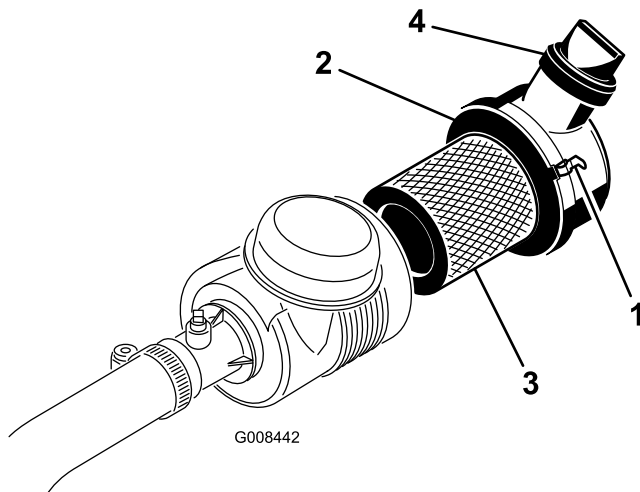

Figure 37
1. Release the latches securing the air cleaner cover to the air cleaner body (Figure 37).
6. Reinstall the cover and secure the latches (Figure 37).